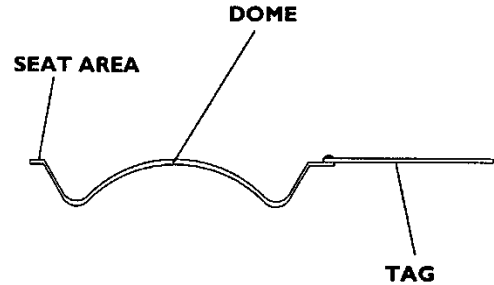

Figure 2 - Rupture Disc
3. Inspect the rupture disc for damage. Look for dents, scratches or dings in the seat area or dents in the dome of the rupture disc (See Figure 2).